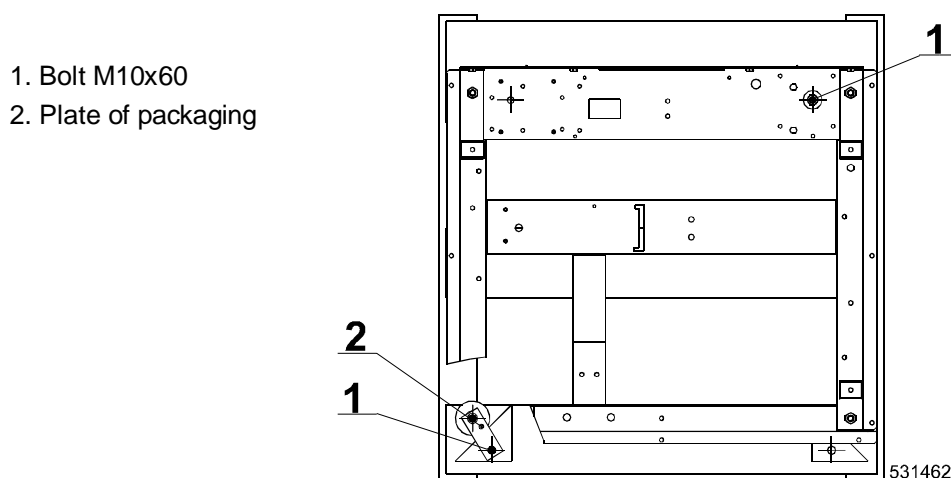
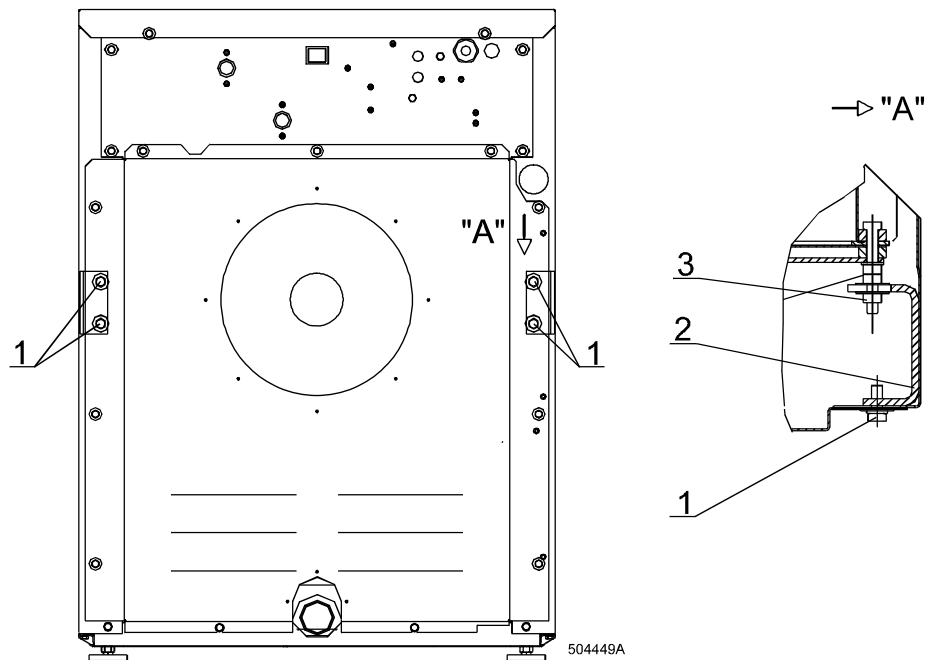

Fig.4.1. Section view from the top of the machine
Fig.4.4. Transporting braces
If possible, leave the machine in transporting package until the machine connection in the laundry. The machine is screwed to the skid by two bolts M10x60, fig.4.1., pos.1. The placement of the bolts M10x60, fig.4.1., pos.1 depends on machine model - (according to position of the transformer on the rear beam of the frame). Remove the packaging and remove the rear panel, see fig.4.4. Remove the bolts M10x60, fig.4.1., pos.1, by which the machine is screwed to the skid. Remove the plate of packaging fig.4.1., pos.2 by unscrewing the adjustable leg together with the nut M10. Mount the rear panel and the adjustable leg together with the nut M10 back to the machine.